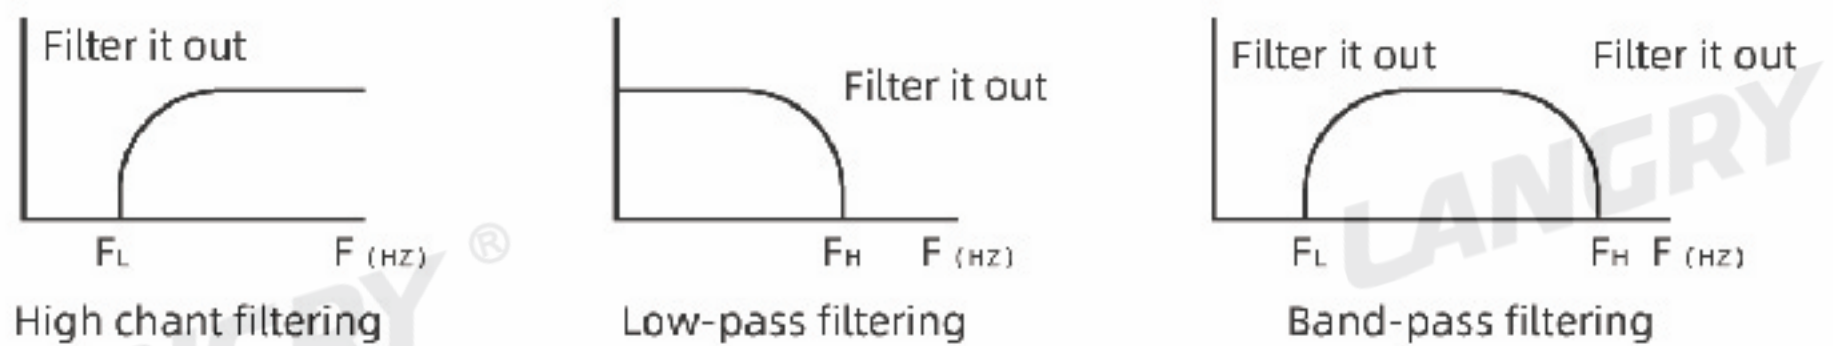

Figure 4-12 Schematic diagram of filtering
3. Filter type: Click the drop-down menu to select the filter type, which includes low-pass, high pass, and band-pass. The default is band-pass. Low pass filtering filters out signals above a certain cutoff frequency, high pass filtering filters out signals below a certain cutoff frequency, and band-pass filtering filters out signals above a high cutoff frequency but below a low cutoff frequency. The filtering schematic is shown in Figure 4-12.